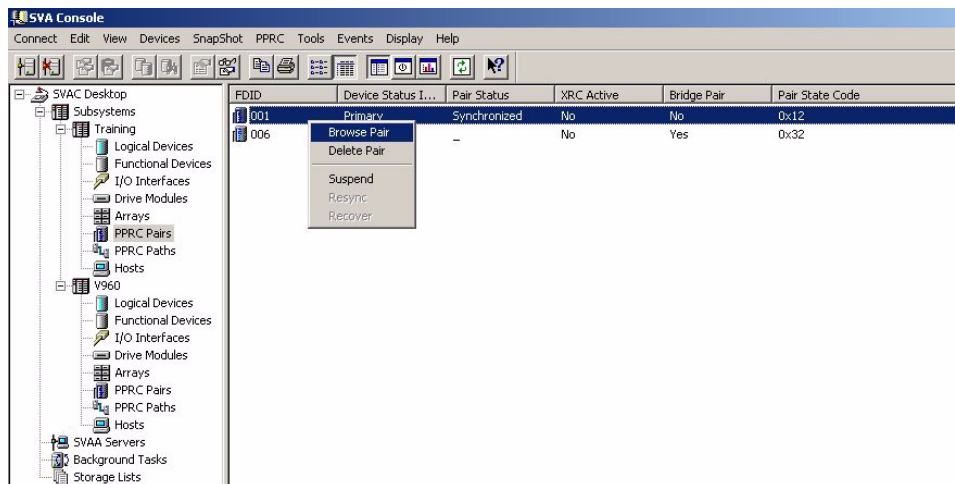

Figure 21 Selecting a PPRC Pair For Deletion.
1. From the SVAC's PC, and using the Shared Virtual Array Administrator, left-click on "PPRC Pairs" as shown in the left side of Figure 21.
2. Right-click on the desired PPRC pair to select it and bring up the selection menu as shown in Figure 21.